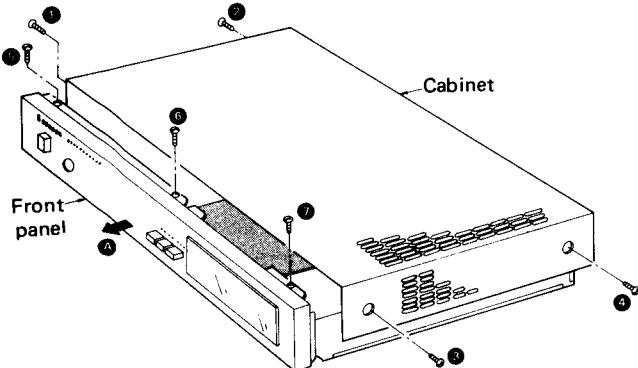
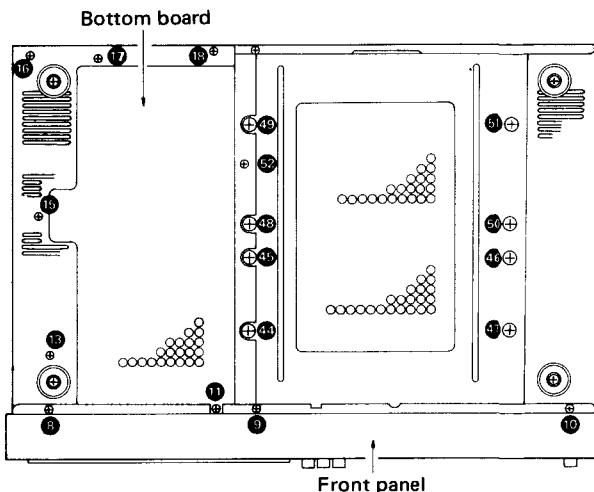

Fig. 8
Fig. 9
1. Remove the 4 setscrews (① ~ ④ in Fig. 8) of the cabinet.
2. Remove the 6 setscrews (⑤ ~ ⑩ in Fig. 8 and Fig. 9) of the front panel.
3. Move the front panel in the direction of the arrow (A) in Fig. 8.
2. Remove the 6 setscrews (11 , 13 and 15 ~ 18) in Fig. 9) of the bottom board.
3. Remove the 4 setscrews (⑭ ~ ⑯ or ⑰ ~ ⑲ in Fig. 9) of the power transformer and cut off the 3 lead clamps.
4. Remove the 1 setscrew (⑳ in Fig. 9) of the temperature detector printed circuit board bracket.
5. Remove the 1 setscrew (㉑ in Fig. 9) of the Heat-sink bracket.